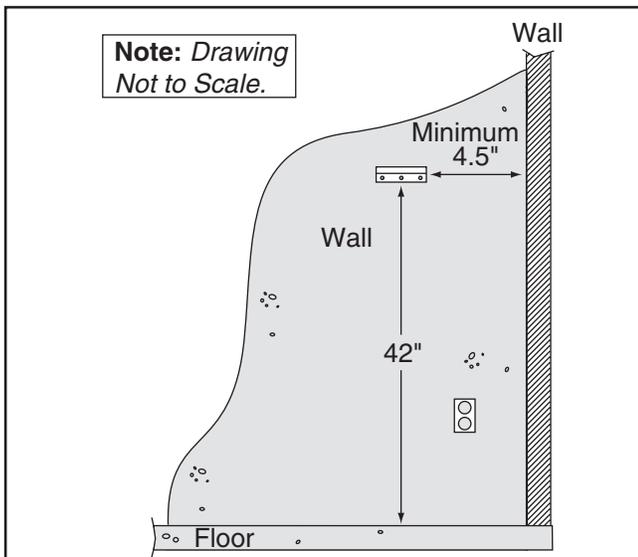

Figure 5. Wall mounting bracket positioning.
2. Using the mounting bracket as a template, mark the mounting hole location where the bottom of the mounting bracket is 42" from the floor and at least 4.5" away from any wall, as shown in **Figure 5**.